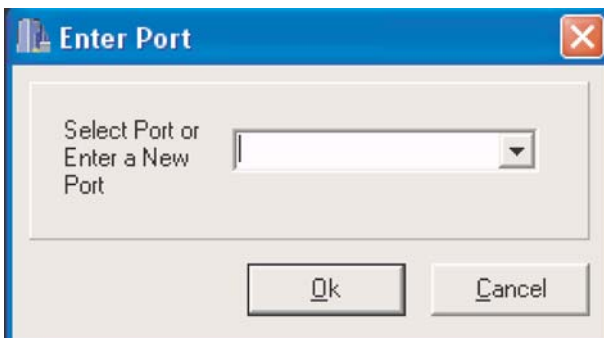

Fig 27.
- 4 To add a new communication port to the list click "Add". Enter the new port number as required. ⇒ Fig 27. \(C-137\)